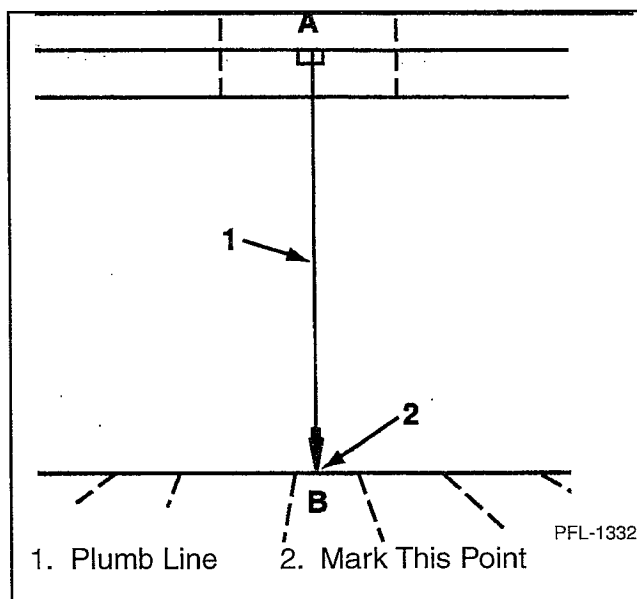

Figure 3
4. Drop a plumb bob from point A and mark point B. See Figure 3.